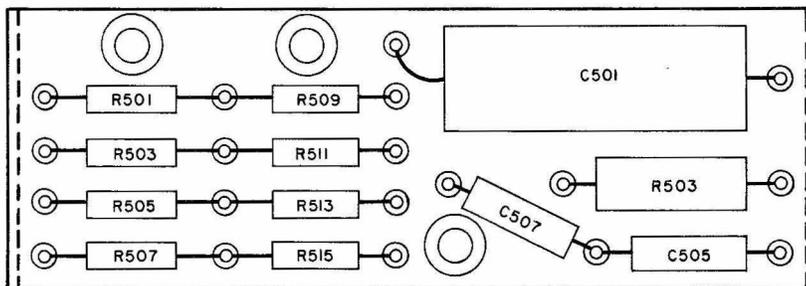

Figure 5-14. Channel A Network Assembly, Location of Front Components
(7) Channel A NETWORK assemblies, figures 5-14 and 5-15.